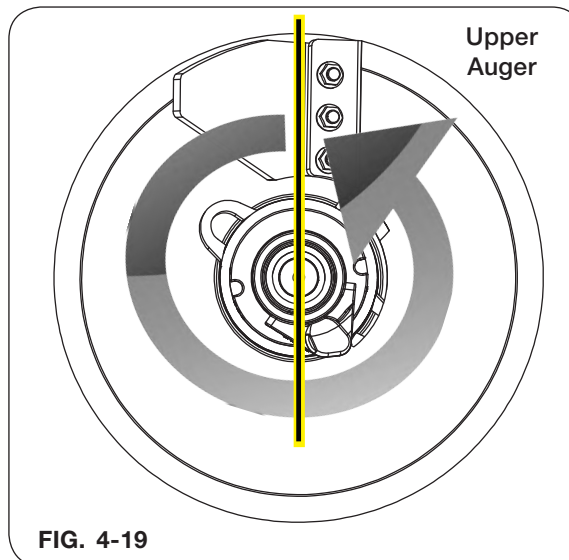

FIG. 4-19
7. Time the drive pin (as in FIG. 4-19) with the finished edge of the flighting at 12:00. Position the drive pin at 6:00.
NOTE: Looking up at the upper flighting (FIG. 4-19) the auger rotation will be counter clockwise.